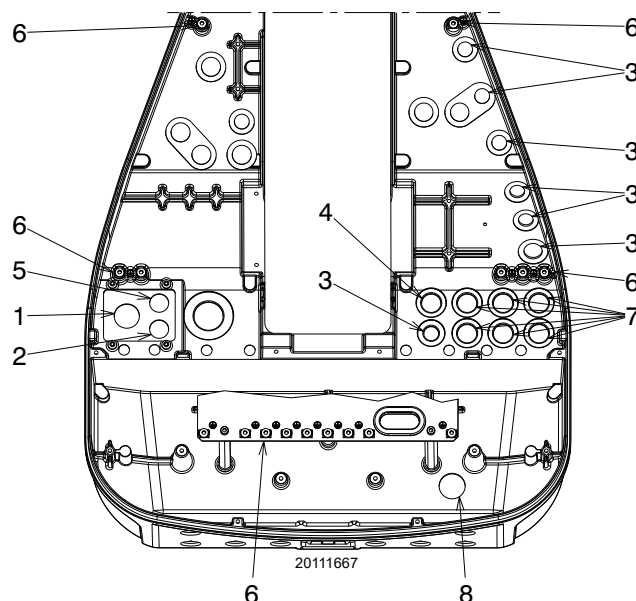

Fig. 26
All the cables to be connected to the burner should be passed through cable grommets, as shown in Fig. 26. The use of the cable grommets can take various forms by way of example we indicate the following mode:
- Bleed the air from the piping of the gas train, connecting a plastic tube to the pressure test point 1)(Fig. 26) of the minimum gas pressure switch. Take the vent tube outside the building so you can notice the smell of gas.